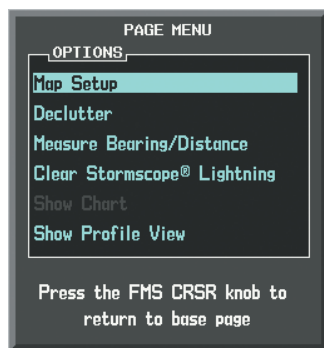

Figure 6-178 Navigation Map Page Menu
- 3) With Map Setup highlighted, press the **ENT** Key (Figure 6-178).